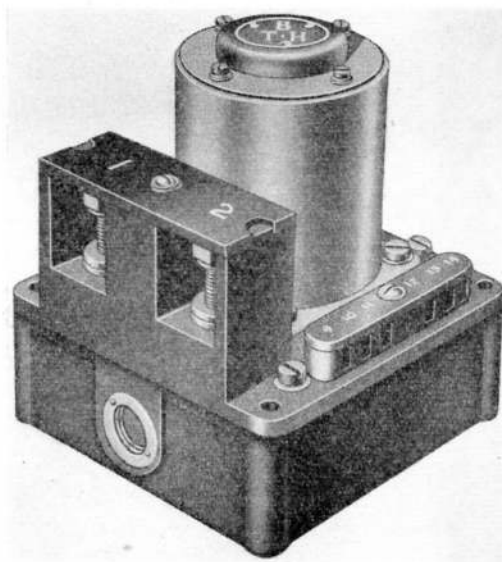

Fig. 1. Magnetic switch, Type 15B
1. The magnetic switch, Type 15B (*fig. 1*) is a single-pole, single-throw contactor for the remote control of circuits carrying up to 400 amp. at a nominal voltage of 24 volts d.c. It incorporates an economy winding to give a reduced holding current.